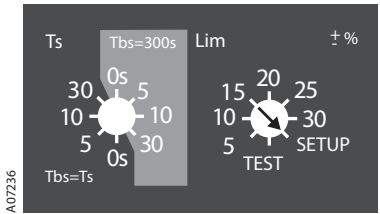

Figure 6.8 Setting of SETUP mode with Lim rotary switch in automatic control units OMD200 and OMD300
2. Choose SETUP mode with Lim rotary switch according to the Figure 6.8.